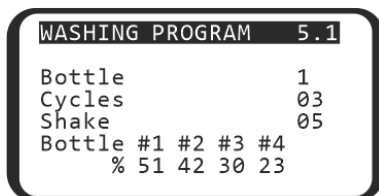

Figure 14. Running program with 4CHW Logger attached
- 5.9.2 If **4 CHW Logger**, the 4-channel washing solution weight logger is connected to the unit, then in addition to values on figure 13, display shows percentage of the remaining volume of liquid in the bottles (figure 14). For the waste bottle #4, percentage values will be increasing.